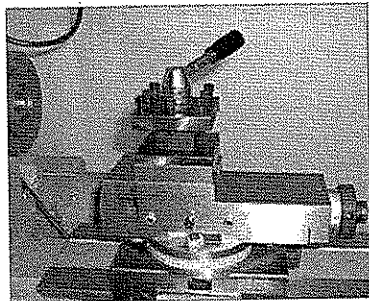
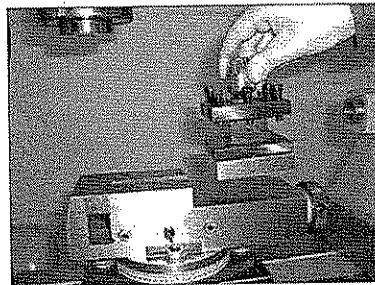

Fig. 12
Fig. 13
The compound tool post mounted on the bench (Fig. 12) can be rotated to keep an angle with the turning axis for turning a bevel face or conical surface. The tool is mounted on the tool rest of the compound tool post. The graduations on front of the base of tool post are from left 60° to right 60° . By turning the Tool post Handle Wheel (10), fine feed can be achieved. By rotating the Handle for Locking Tool post (8) counter-clockwise, the upper section of the compound tool post can be moved to the right and the lower section can be used as a bench clamp (as in Fig.13). When clamping workpiece with the bench clamp, the torque rod (a small rod) in the accessories can be used for clamping or releasing the workpiece by inserting the rod into the round hole of Tool Post Handle Wheel (10).